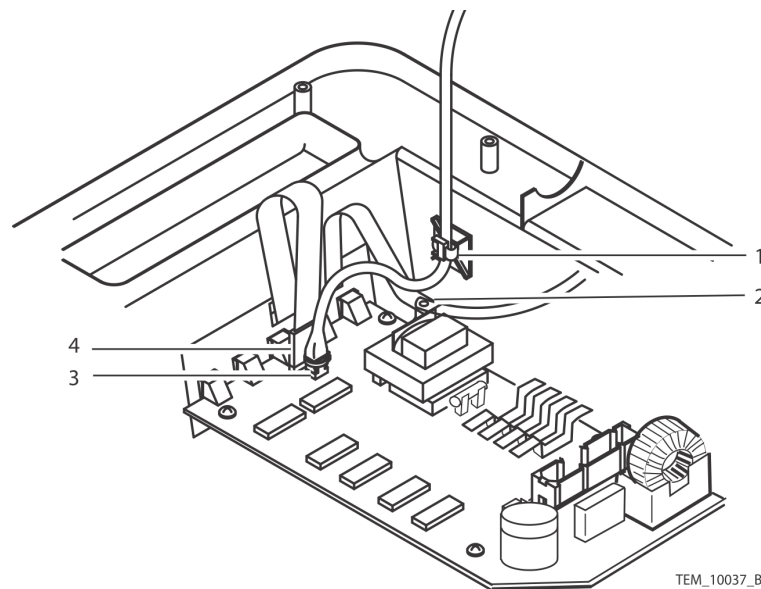

Figure 23. Cable Disconnect
9. Cut the cable tie (Figure 23, item 1).
10. Remove the ground screw (Figure 23, item 2).
11. Cut the cable tie holding the thermistor cable to the connector (Figure 23, item 3).
12. Disconnect the thermistor cable connector (Figure 23, item 3).
13. Disconnect the ribbon cable connector (Figure 23, item 4).